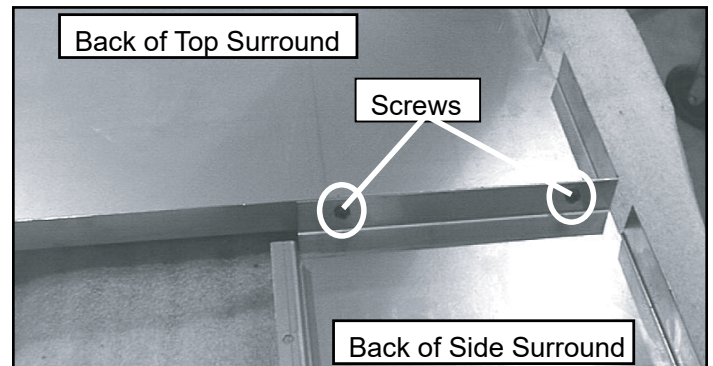

Figure 20.3
1. Secure the top panel to the surround sides with the screws provided (**Figure 20.3**).